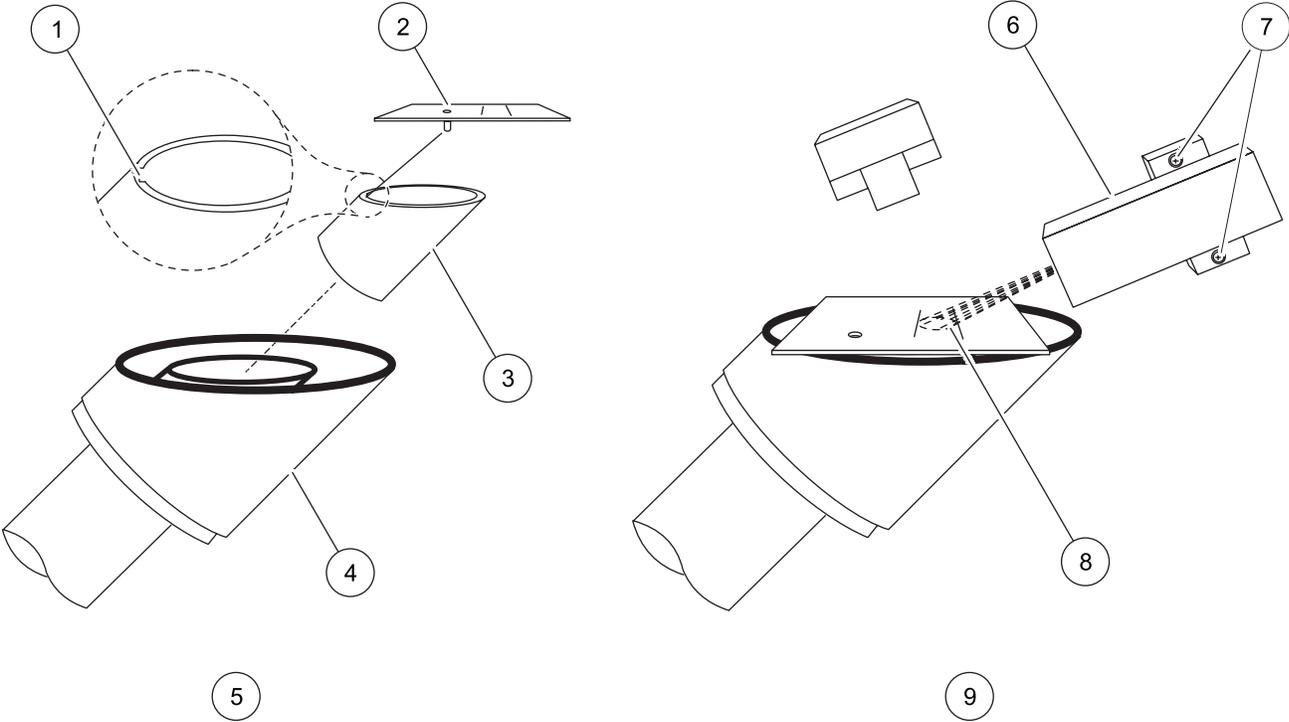

Figure 18 Alignment details
- c. Place the alignment template on top of the calibration cylinder with the guide pin down and against the flat notch on the inside of the cylinder (Figure 18). The back edge of the template should be against the sample unit back plate.
- d. Check the position of the lamp image on the alignment template surface. It should fall on the target area so the center of the beam is centered between the lines (Figure 18).